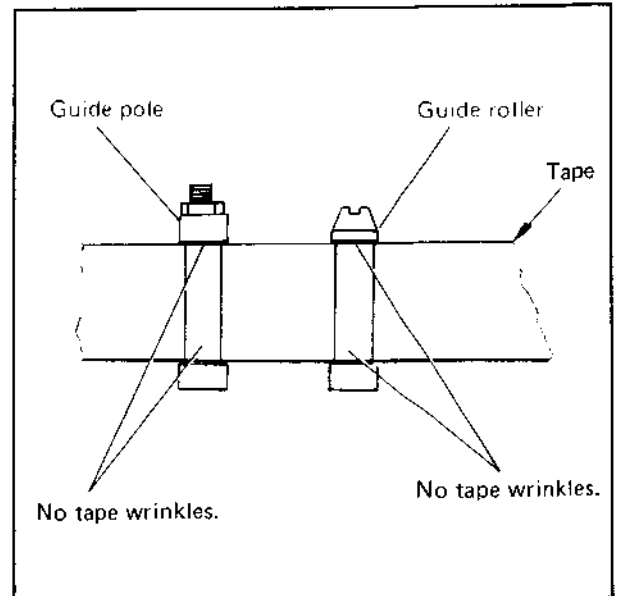

Fig. 4-22
3. During loading, Play and unloading, observe the tape at the supply and take-up guide rollers and guide poles. Check for absence of curling or wrinkling. (See Fig. 4-22.)